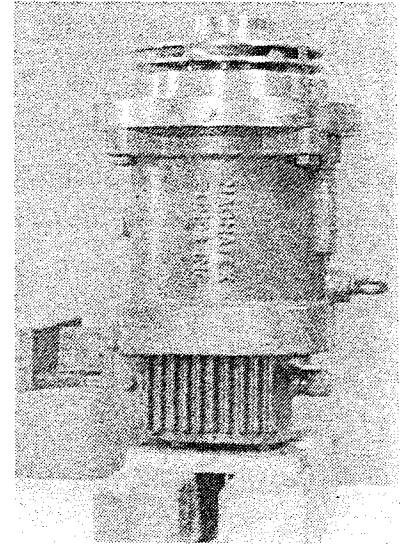

Figure 7
4. Set the pump so the motor shaft end is down. Brace the assembly by positioning the shaft between supports for direct support to the bearing housing [Fig. 7]. Remove the gasket (Item 80).